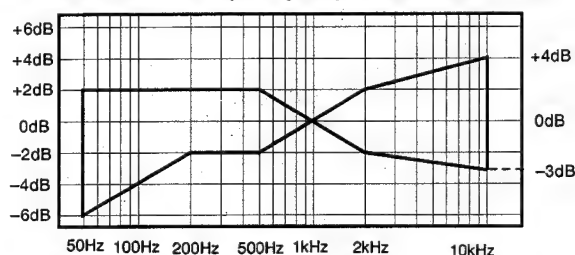

Fig. 11
6. Play back the test signals just recorded and verify that the levels at the test frequencies fall in the ranges specified in Fig.11 with respect to the reference signal level.